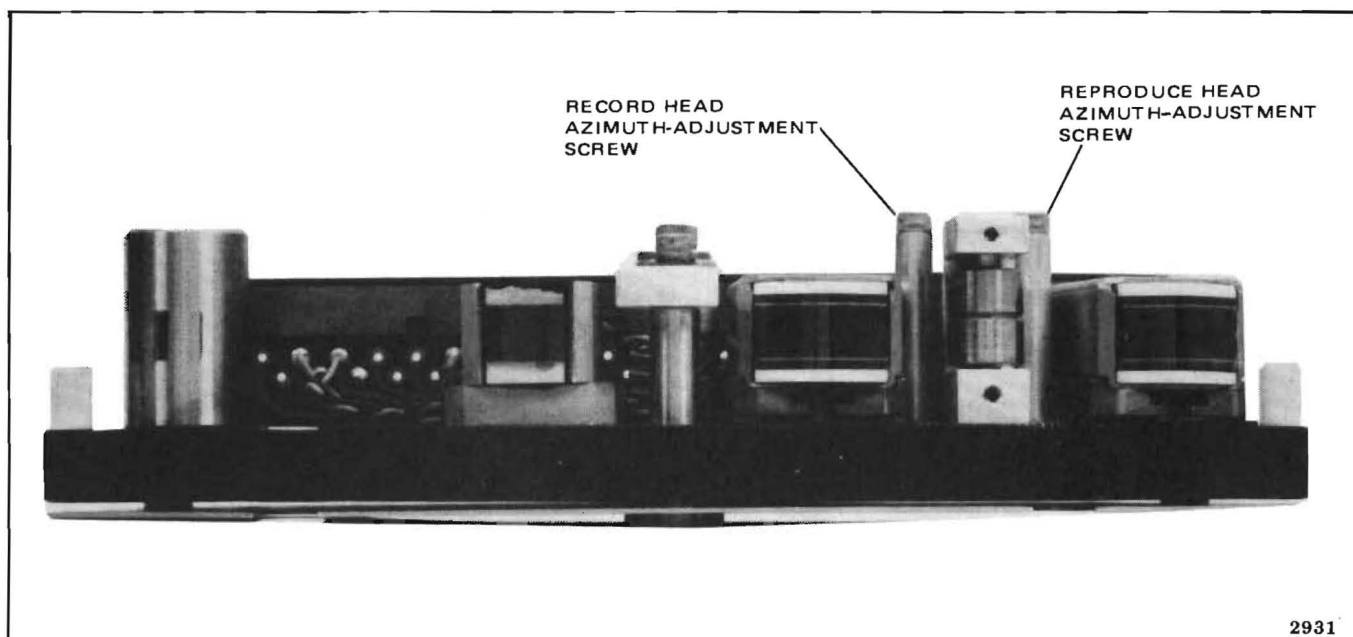

Figure 5-11. Azimuth Adjustment Screw Location
5-33. Head Azimuth and Phase — General Discussion. The only head adjustment required is for record and reproduce head stack azimuth. Precision mounting of the record and reproduce head stack has eliminated the need for adjusting tape wrap, height, and zenith. The azimuth adjustment is made by turning a hex socket screw accessible through the top of the head shield (Figure 5-11) which causes a tapered gear to rotate underneath the head-stack precision plate. The azimuth adjustment is adjustable over a range of ± 15 minutes of arc.
10. While reproducing the highest frequency tone on the alignment tape (7.5 kHz at 3.75 in/s or 15 kHz at 7.5, 15, and 30 in/s), adjust the reproduce head azimuth screw (Figure 5-11) for maximum output.